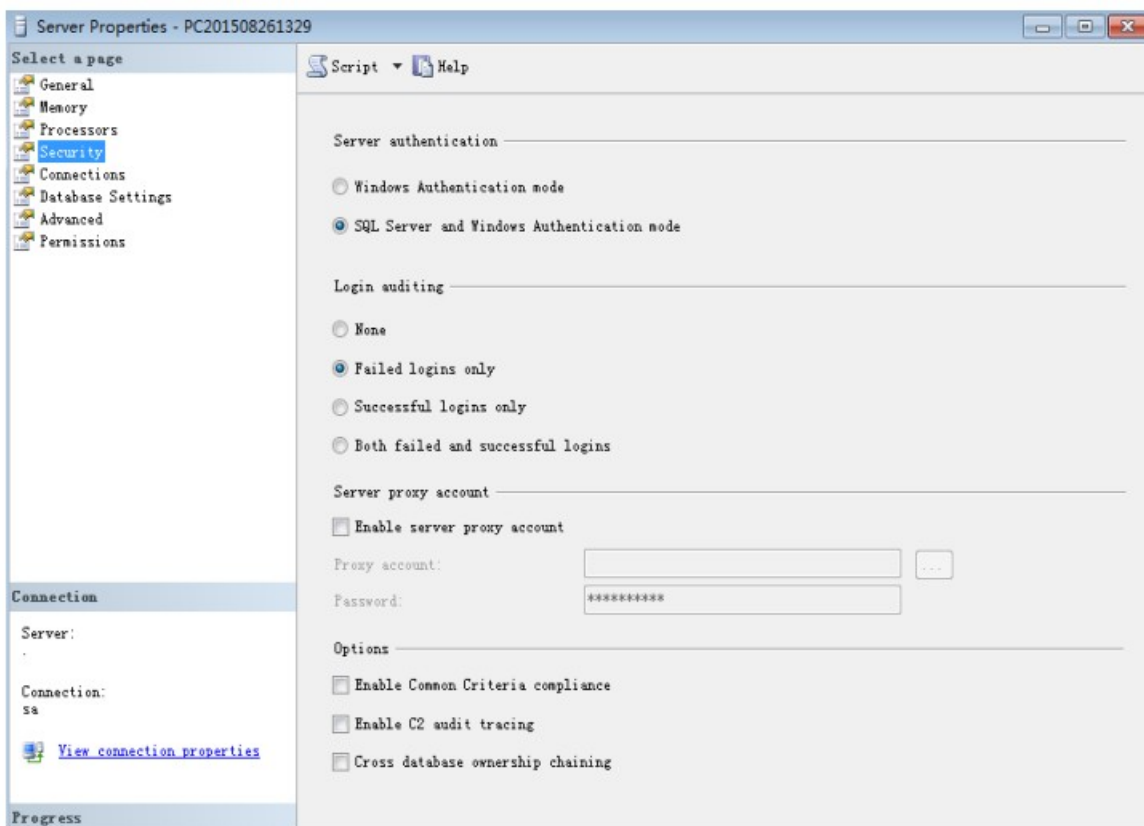

Fig.1.2 Server Properties
**Step Two:** After clicking “Properties” choose on the left, then choose Server and Windows Authentication in Server authentication to enable hybrid login mode(see Fig.1.2).